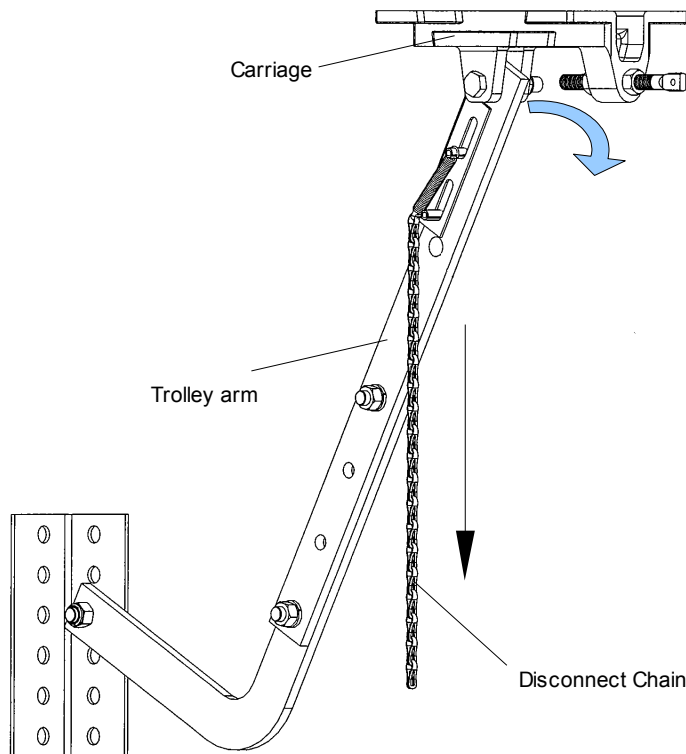

Figure 4 - Disconnect Trolley Arm From Carriage
1. Pull disconnect chain downwards, refer to Figure 4.
2. Disconnect trolley arm from carriage, refer to Figure 4.